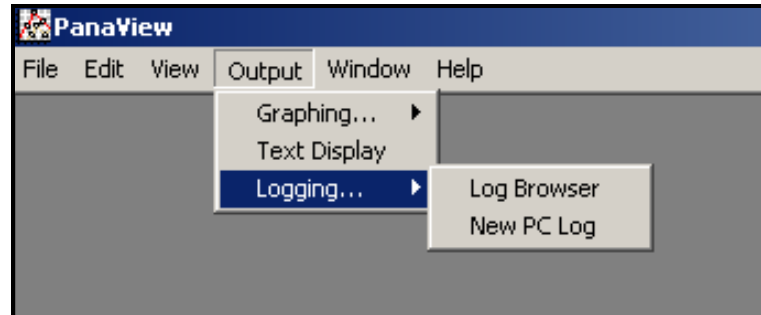
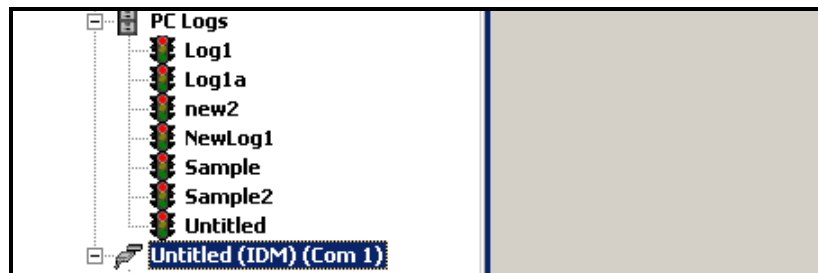
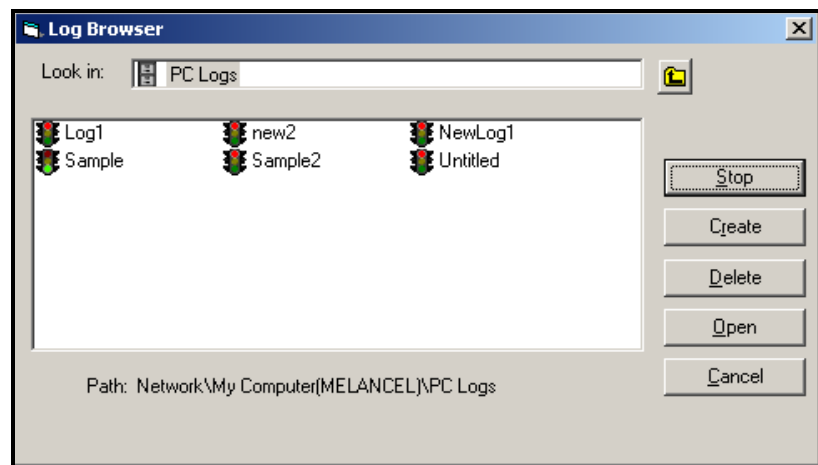

Figure 3-4: Selections in the Logging Option
Figure 3-13: The Expanded PC Logs Option
Figure 3-14: Selecting a Log File from the Log Browser
1. Open the *Output* menu (see Figure 3-4 below), and click on the *Logging* option.
- From the *New Meter Browser* in PanaView, expand the network tree and click on the *PC Logs* option. If you have created one or more logs, the tree will appear similar to Figure 3-13 below. Double-click on the log name to open the log.
- Pull down the *Output* menu (see Figure 3-4 on page 3-7), and click on the *Log Browser* option. Advance to the *PC Logs* dialog box as described in previous sections. A screen similar to that shown in Figure 3-14 below appears.
Notice that each of the log files in Figure 3-13 and Figure 3-14 above has a traffic light icon next to its name. These icons indicate the current status of the log as follows: